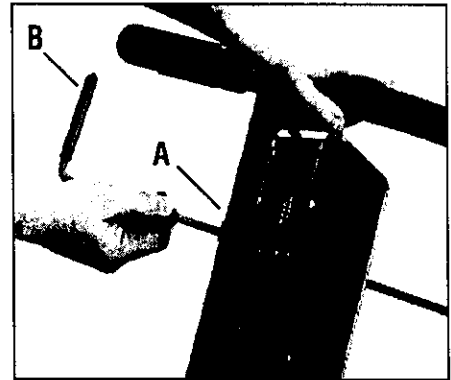

Figure 2-1: Remove Reverse Clutch Lever.
1. Remove the Reverse Clutch Lever (B, Figure 2-1) from the handlebars (A). Remove any rubber bands from the handlebars.